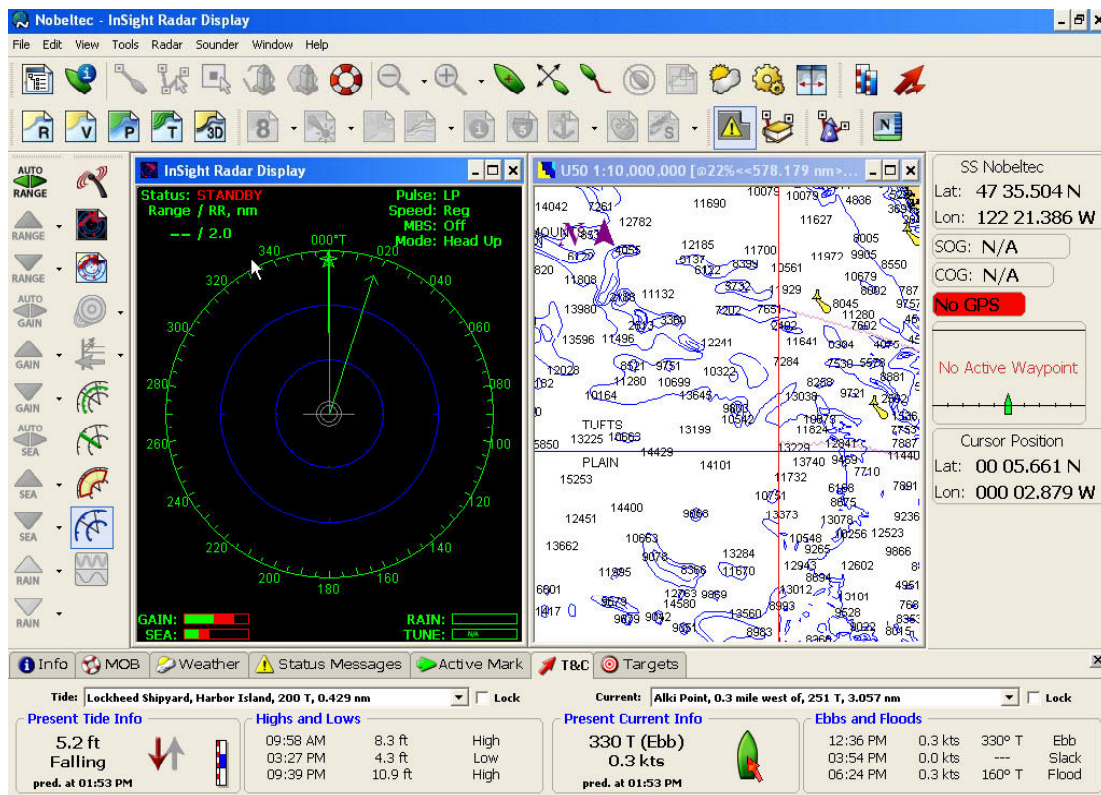

Figure 24 – InSight Radar Display window
3. The Radar Window will open in Standby Mode (see **Figure 24**).